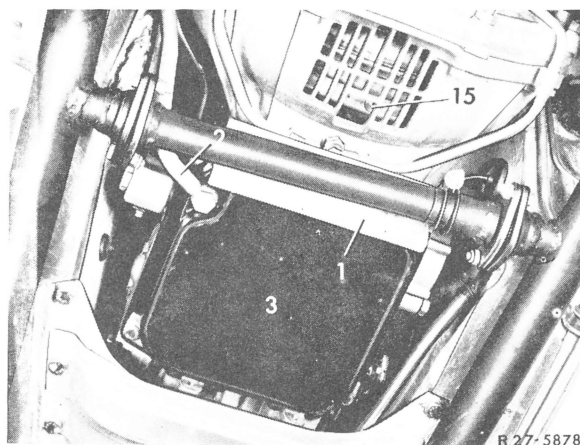

Fig. 1
1 Drain transmission fluid, detaching the fluid filler pipe (2) from sump for this purpose (Fig. 1).
12 Install sump with new gasket and tighten fastening bolts to 0.7 kpm (Fig. 1).
13 Screw fluid filler pipe to sump (Fig. 1).